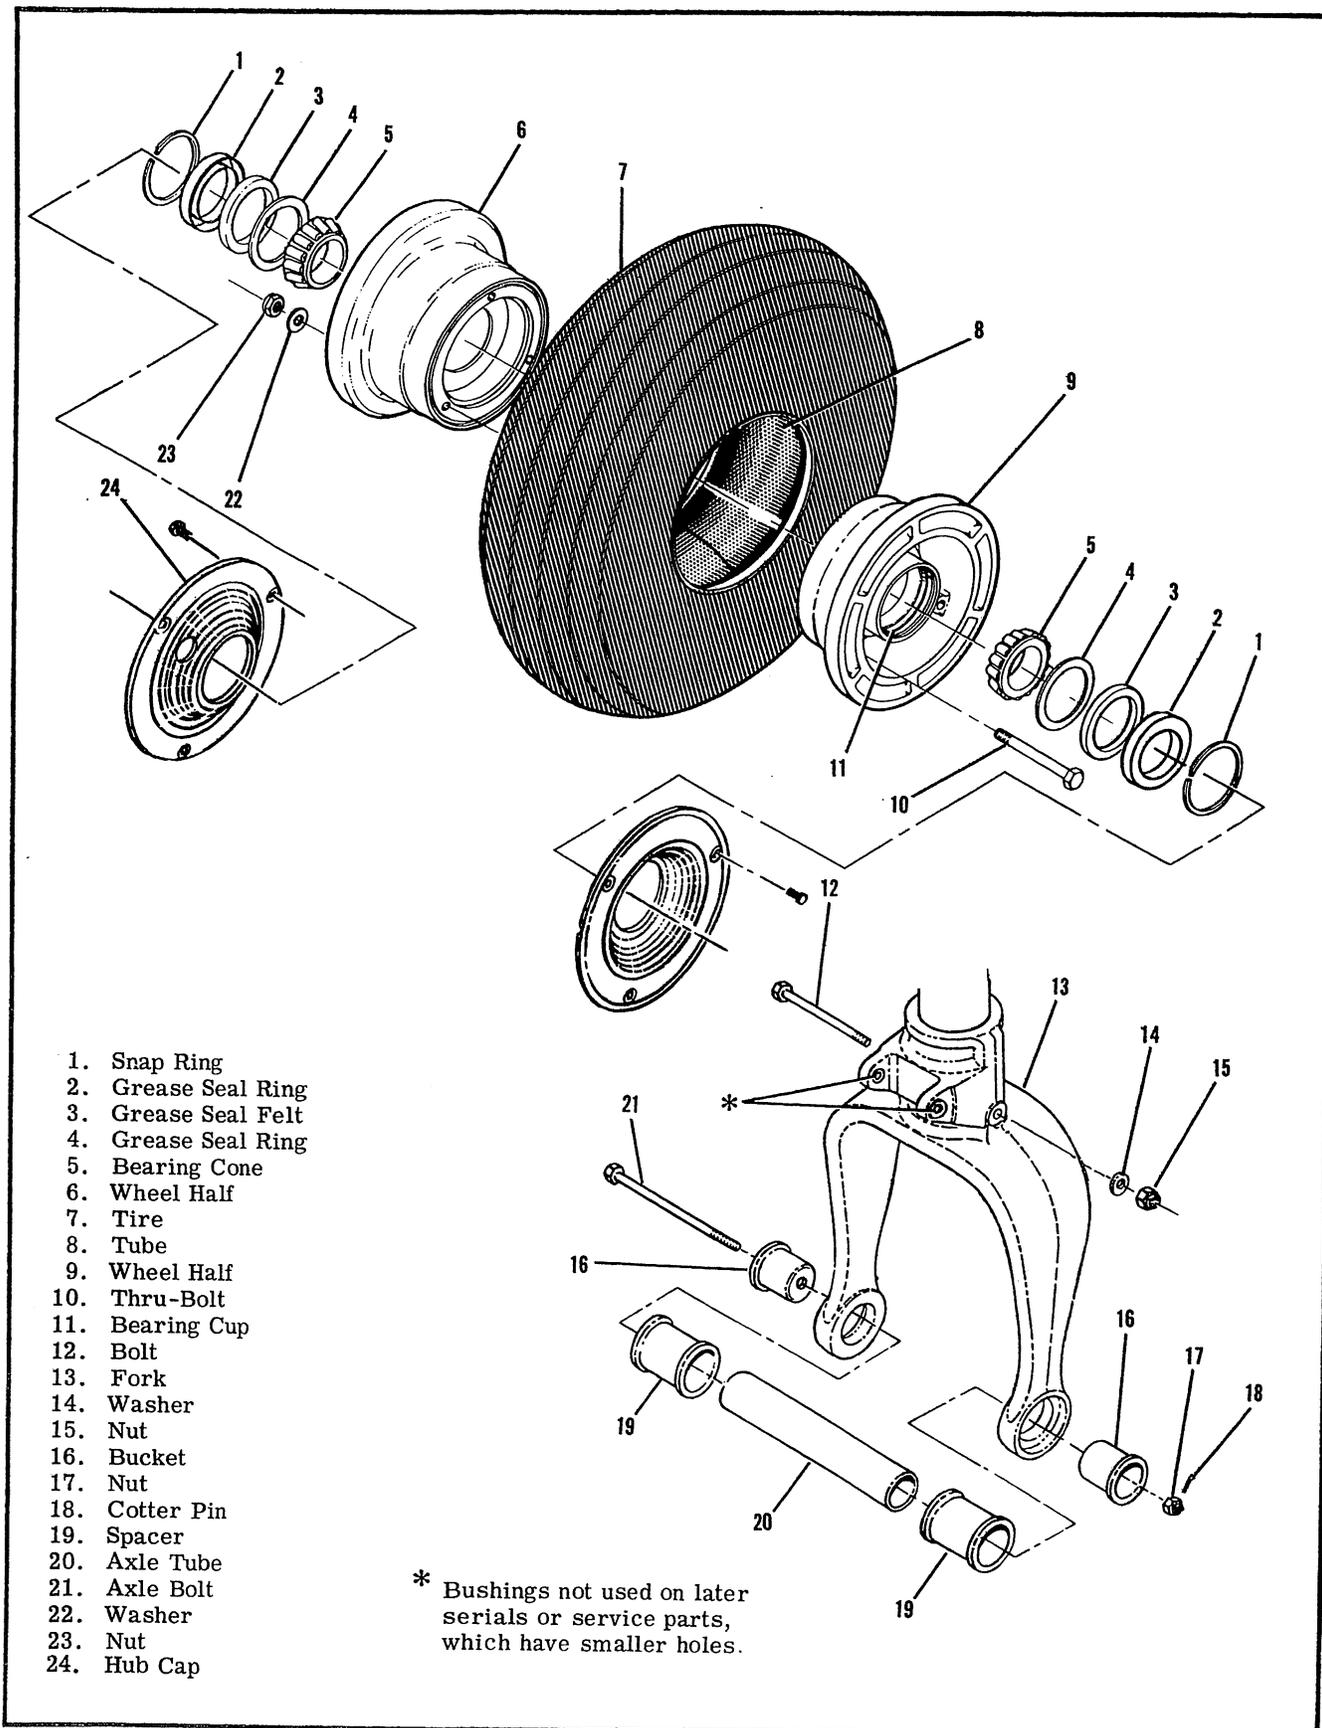

Figure 5-24. Nose Wheel
5-146. NOSE GEAR WHEEL. (Refer to figure 5-24.)
5-149. REMOVAL OF NOSE GEAR WHEEL. (Refer to figure 5-24.)
5-150. DISASSEMBLY OF NOSE GEAR WHEEL. (Refer to figure 5-24.)
- b. Replace damaged or discolored bearing cups (11) and cones (5) (refer to figure 5-24.)
5-152. ASSEMBLY OF NOSE GEAR WHEEL. (Refer to figure 5-24.)
5-153. INSTALLATION OF NOSE GEAR WHEEL. (Refer to figure 5-24.)